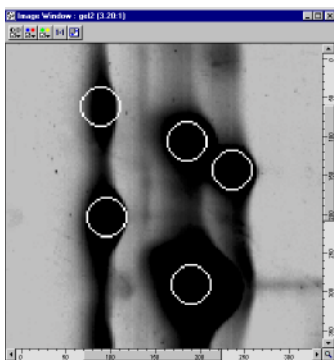

Fig 4-1. The use of Draw Spots pen tool to simulate the size of the picker head.
- The dimension of the picker head limits picking of spots very close to each other. It is advisable to get an idea of the size of the picker head in the gel image by using a pen tool of appropriate size (Fig. 4-1).